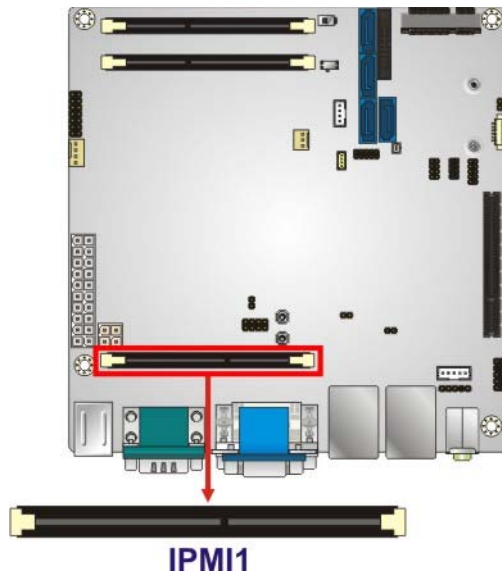

Figure 3-15: iRIS Module Slot Location
- CN Location:** See **Figure 3-15**